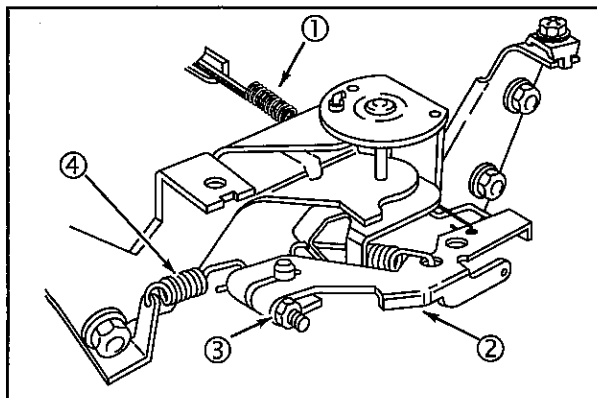

Fig. 5
1. Disconnect governor link and spring (1) at carburetor, Fig. 5.
- Loosen governor lever nut (3).
- Remove governor lever (2) from shaft.